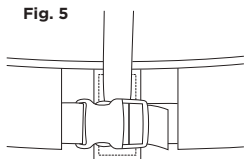

Fig. 5
3. Reconnect the modular buckle(s). [Fig. 5]
3. Vuelva a abrochar las hebillas modulares. [Fig. 5]